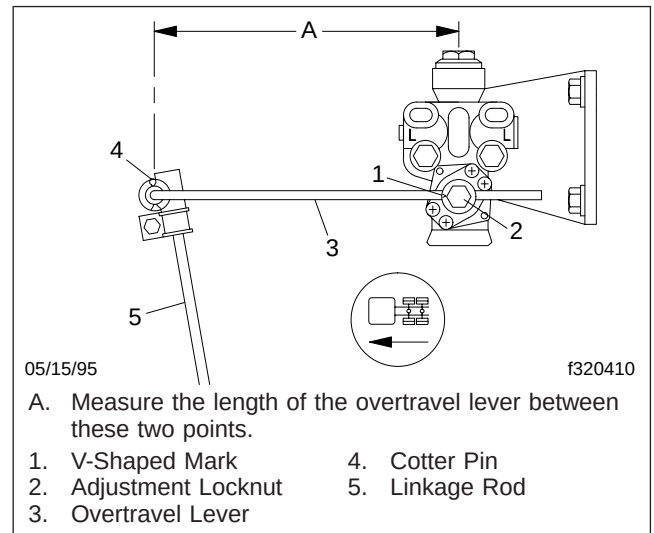

Fig. 5, AirLiner Overtravel Lever and Linkage Rod Measurement
3. Check the length of the overtravel lever between its pivot points. See Fig. 5, Ref. A.